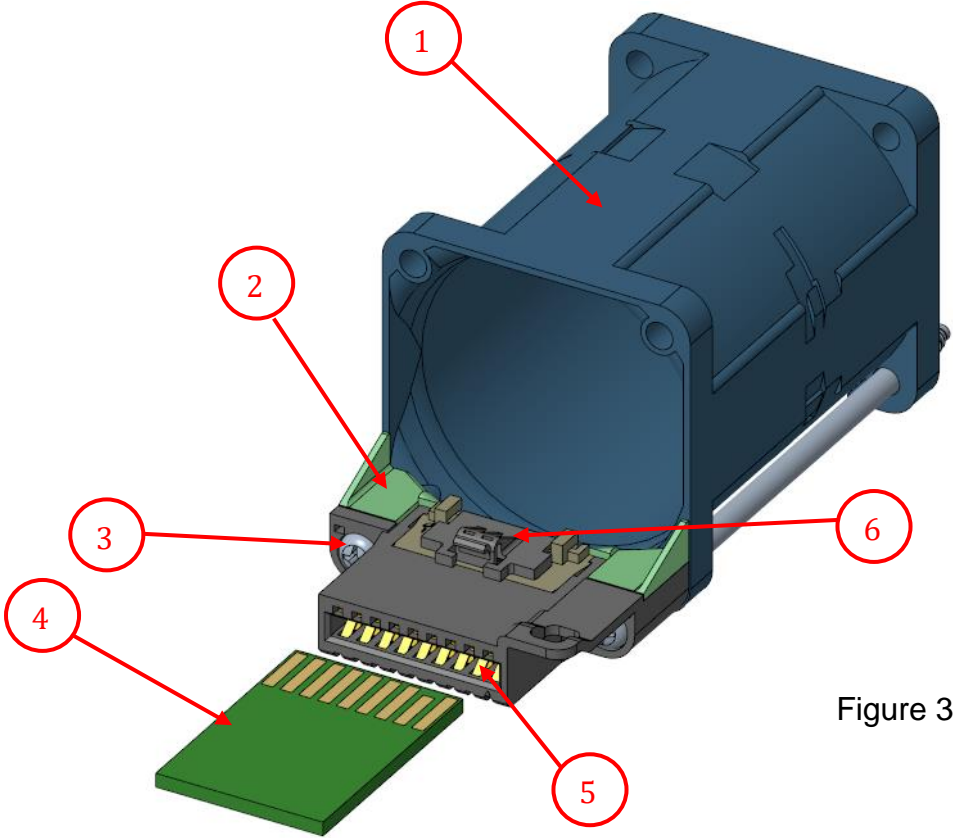

Figure 3
- 1.2 EDGE CARD CONNECTOR FOR SMART FAN MODULE GFMF04 series assembly concept is shown in Figure 3 and sectional view shown in Figure 4